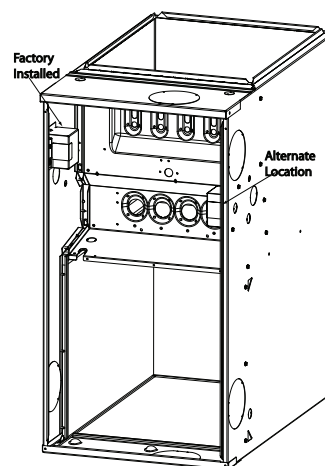

Fig. 23 - Relocating J-Box
1. Remove and save two screws holding J-Box. (See Fig. 23.)
NOTE: The J-Box cover need not be removed from the J-Box in order to move the J-Box. Do NOT remove green ground screw inside J-Box. (See Fig. 23.)
4. Remove and save two screws holding J-Box. (See Fig. 23.)